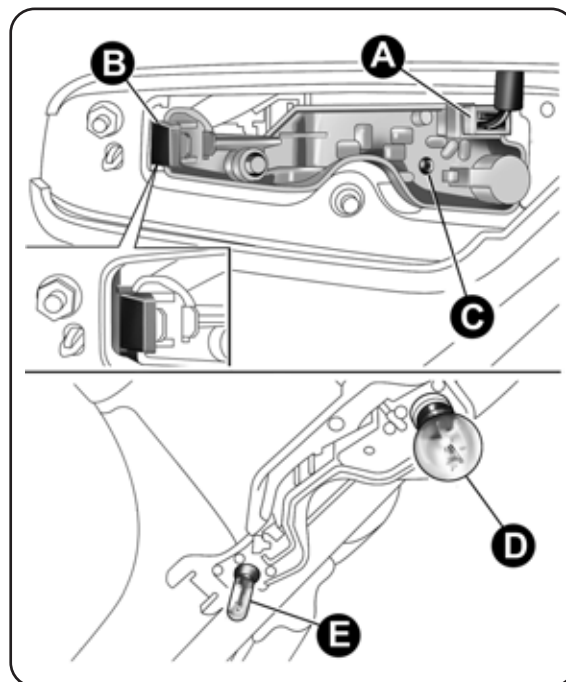

fig. 138
- remove the connector A-fig. 138 and extract the bulb holder assembly by operating on the retaining tab B and then by loosening the screw C;
- remove the bulb by pushing it slightly and turning it anticlockwise fig. 138;